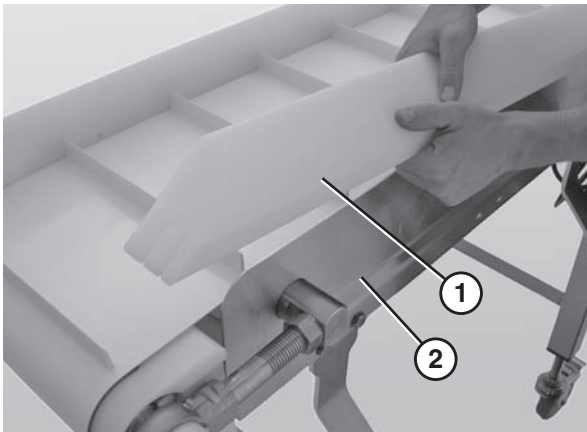

Figure 21
1. Position the guide (Figure 21, item 1) so that the flat surface is facing the belt and then slide the guide onto the frame rail (Figure 21, item 2).